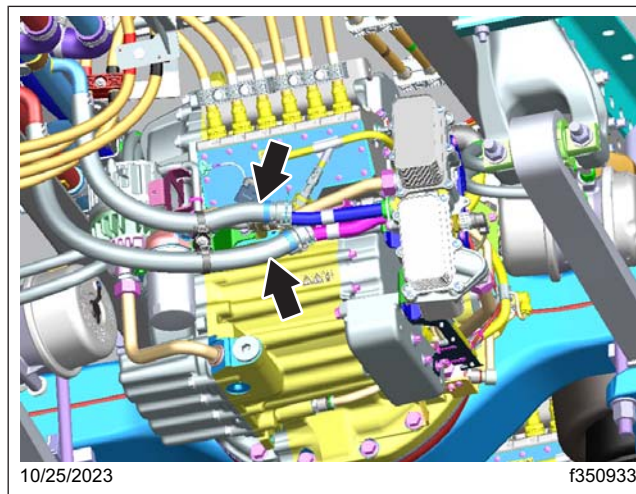

Fig. 16, Location of the Coolant Lines
20. Disconnect the coolant lines from the e-Axle, and let the fluid drain out. See Fig. 16.
66. Connect the coolant lines to the e-Axle. See **Fig. 16**.